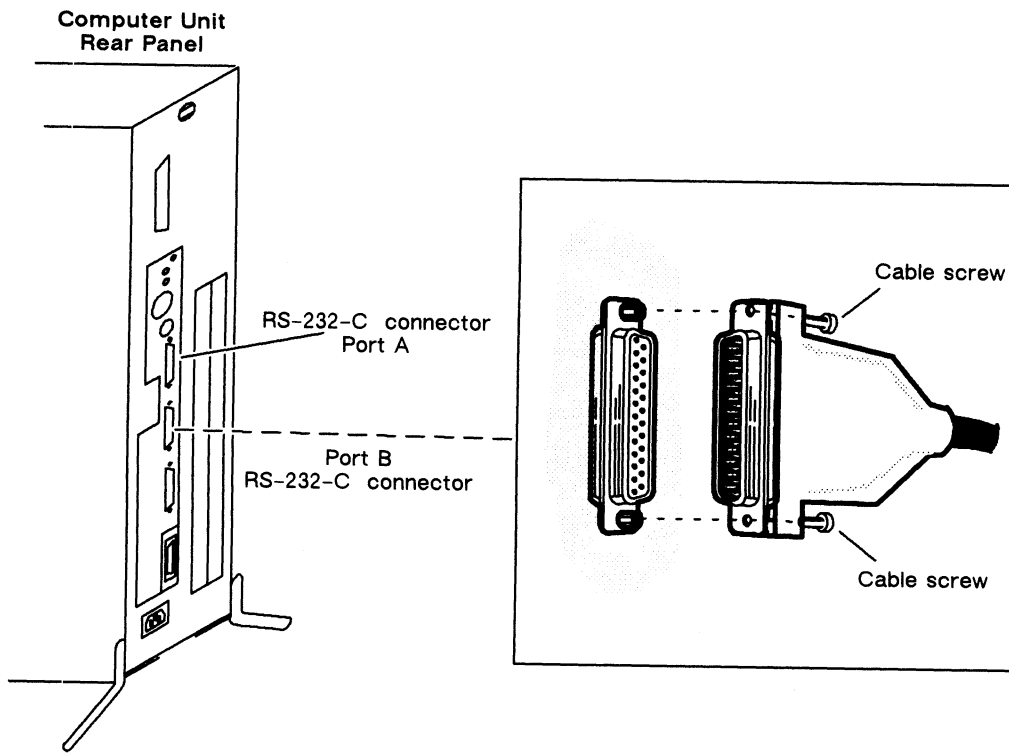

Figure 2-2 Connecting Asynchronous Devices to the RS-232-C B Port
1. Align the pins in the male end of the cable to the holes in the lower of the two RS-232-C connectors (port B) on the computer unit rear panel, shown in Figure 2-2. The connector is labeled RS232B.